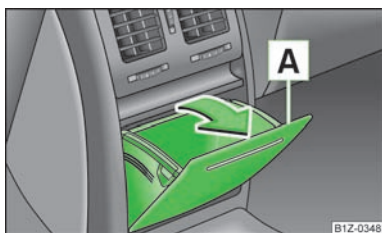

Fig. 80
- Open the storage compartment by pulling on the upper edge [A] in the direction of arrow » Fig. 80.